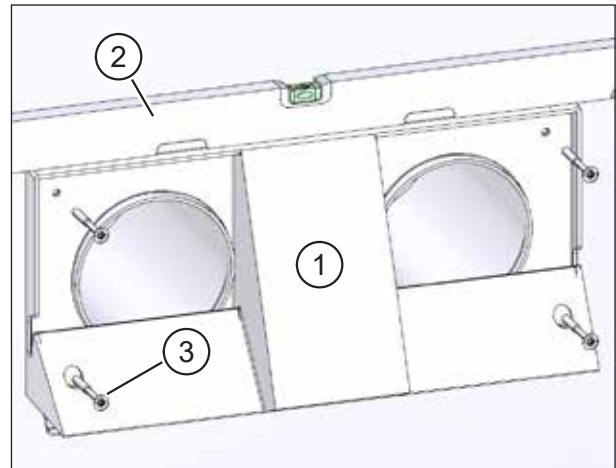

Fig. 13: Fixing the base plate
- ▶ Carefully position the base plate (item 1 in Fig. 13) correctly on the ventilation pipes. Be careful not to damage the seals.
- ▶ Use a spirit level to align the base plate vertically (see item 2 in Fig. 13).
- ▶ Use the four screws provided to fix the base plate (item 3 in Fig. 13).